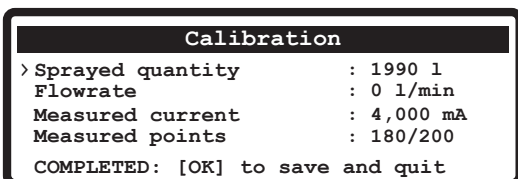

Fig. 31
**11** If the calibration has not been manually ended, when the flowrate value reaches zero (Fig. 31) and remains so for at least 10 s, BRAVO 350 automatically finishes the procedure and displays the message **COMPLETED: OK to save and quit.**